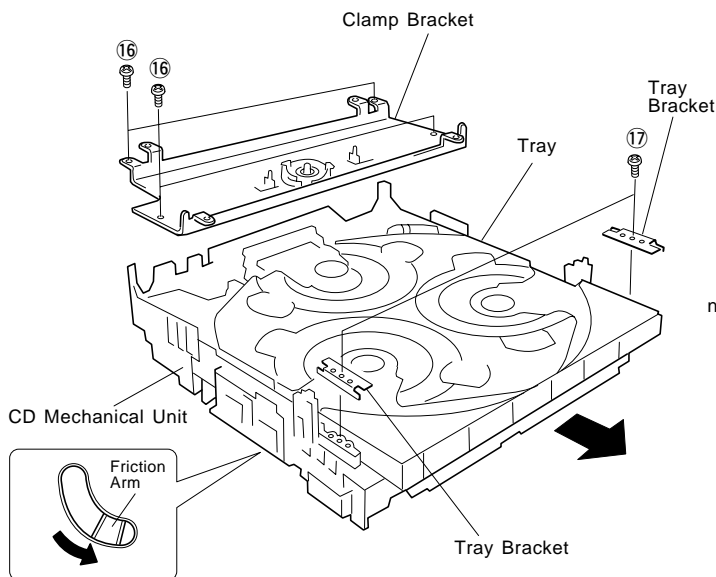

Fig. 11
- Remove 4 screws (16) and then remove the Clamp Bracket in Fig. 11.
- Remove 2 screws (17) and then remove the Tray Brackets in Fig. 11.
- Push the Friction Arm (the bottom side of the CD Mechanical Unit) with a screwdriver or the like and pull out the Tray forward as in Fig. 11.